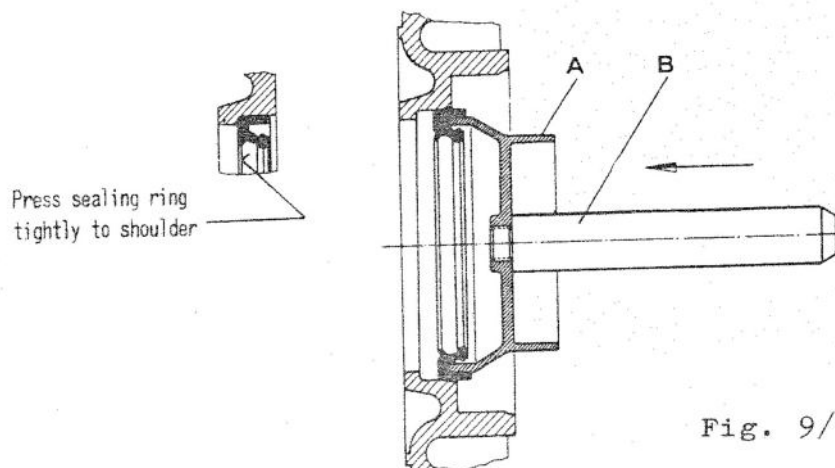

Fig. 9/3
- 1) Moisten sealing rings. Press sealing ring 4 into the clutch casing by applying the tool shown in fig. 9/3 and then lightly hitting against bolt B. In order to be able to use the tool for pressing sealing ring 17 into cover 18, screw the bolt B into the other side of the disc. Then proceed in the same way as for sealing ring 4. The tool consisting of disc (part no. 3158-9939-000) and bolt (part no. 3170-9877-010) is supplied on special order only.
Remove the ventilation grid so that the oil level indicator plate can be seen. Bring the clutch into such a position that threaded plug A (fig. 9/1) can be removed without oil flowing out. Unscrew threaded plug with a wrench. Then turn clutch until lower edge of taphole is in line with mark on oil level indicator plate (fig. 9/1). In this position, the oil level in the clutch must be up to the lower edge of the taphole, so that the oil begins to overflow. If this is not the case, refill oil (see 9.3).
9.3. Re-filling oil (fig. 9/1)